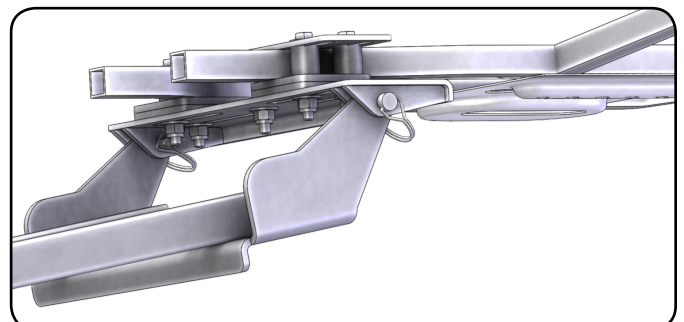

Figure 12 - Tube System Attachment
- Attach the tube system to the Hybrid Mount System, by first positioning the tube system, with blade installed, under your ATV. Then raise tube attach points to the mount and line up the holes on mount plate with the holes in the tube system. Insert Pin through holes and secure on other side with clips as shown in Figure 12.